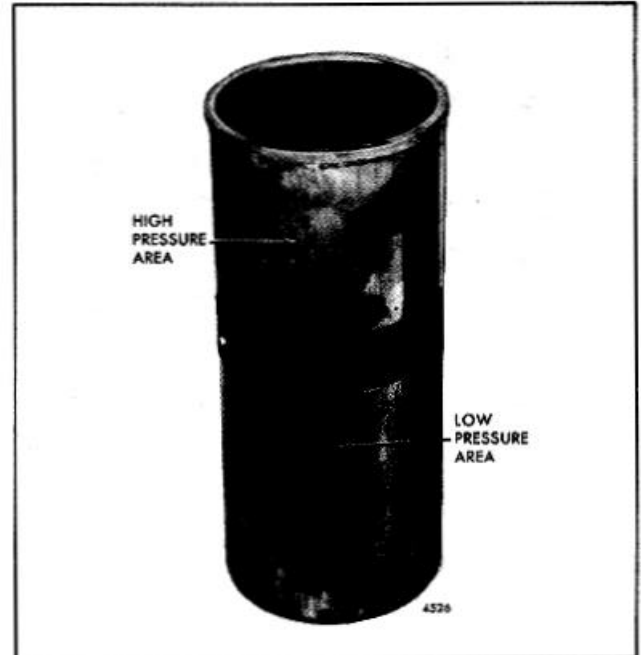

Fig. 11 - High Pressure Areas on Cylinder Liner
2. The cylinder liner is alternately expanding and contracting, during engine operation. due to temperature variations. This may result in irregularities in the block bores (out-of-round and taper), the effects of which will be seen as high pressure areas on the outside diameter of the cylinder liner (Fig. 11). A slight increase in block bore size is normal with high mileage or long period: o)l engine operation.